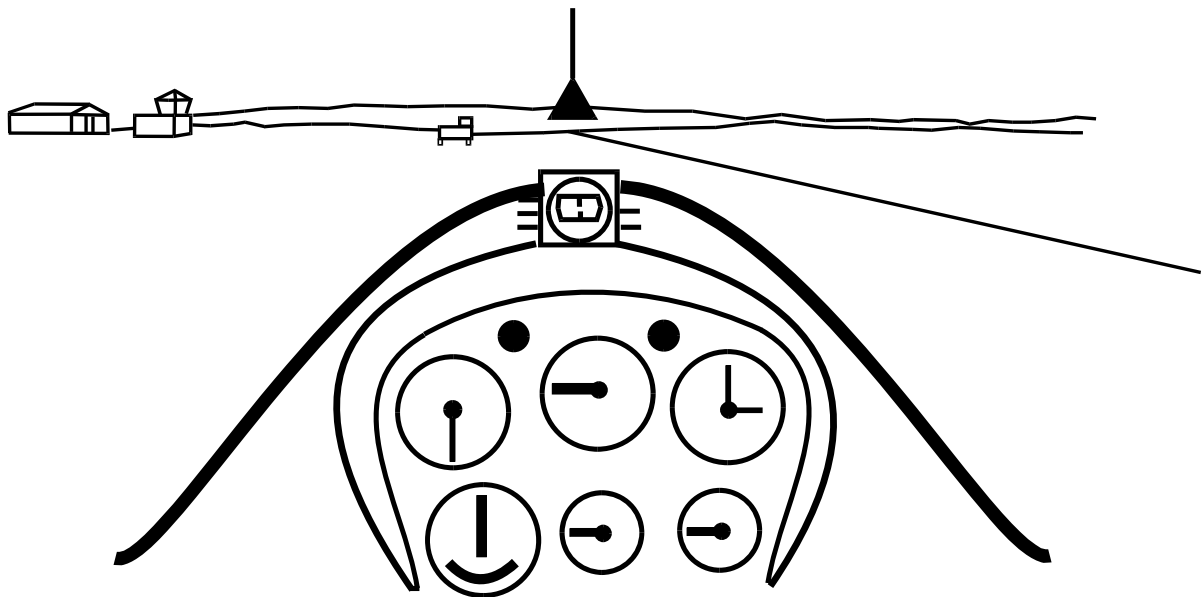

Fig 10. **The Landing attitude.**
b. **Hold off.** This is a period where the aircraft is losing airspeed because it is gliding level. If the attitude remained the same then the aircraft would sink towards the ground as the reduction in speed caused a reduction in lift. To prevent the aircraft touching down early we increase the angle of attack of the wings by applying a back pressure on the control column. This progressively pitches the nose of the aircraft up until the landing attitude is achieved. Fig 10 shows a landing attitude, although, dependent on sitting height, this will vary from one individual to another. Remember that the airbrakes tend to close as airspeed reduces so it is vital to hold the airbrake lever firmly.